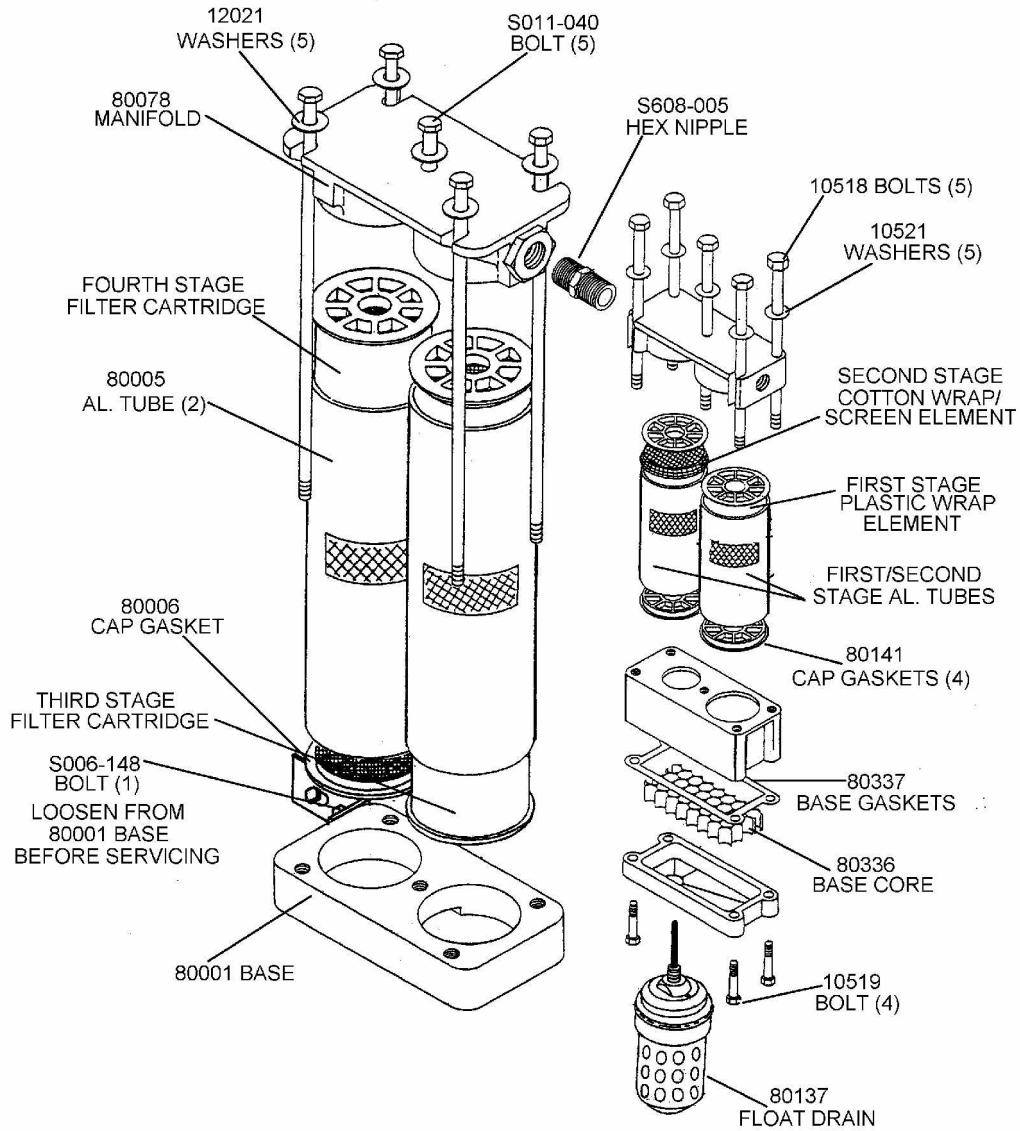

FIGURE NO. 1
- A. Loosen five (5) 10518 Manifold Bolts (see Figure No. 1) enough to allow first and second stage cartridges to move freely.
- B. Remove two (2) corner (10518) Bolts with (10521) Washers.
- B. Loosen five (5) S011-040 Manifold Bolts enough to allow the third and fourth stage cartridges assemblies to move freely.
- C. Remove two (2) corner (S011-040) Bolts with (12021) Washers.
- D. Slide out old third and fourth stage cartridge assemblies (see Figure No. 1).